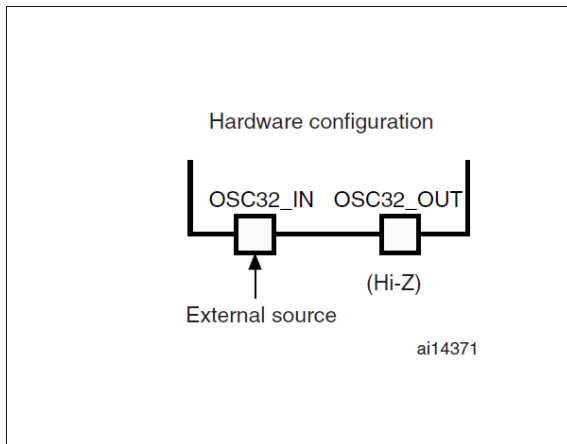

Figure 6. External clock
- LSE user external clock (Figure 6)